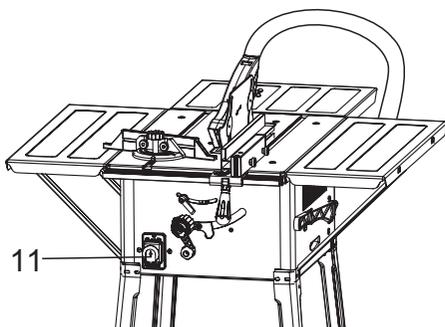

Fig. 23
To start the machine, press the tabs on either side of the red safety button and lift it and the switch(11) cover plate upwards to reveal the on and off buttons. Push the green button "I" to start the machine and the red button "0" to stop the machine. (Fig.23)